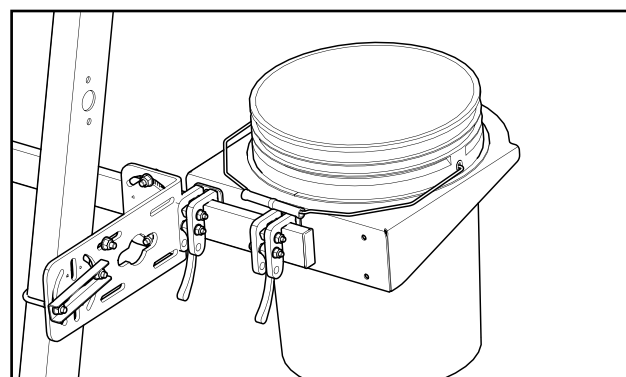

Fig. 4 (bucket holder set to overhang)
2. Holes are provided in the center of the bucket holder to allow a cam lever latch to be removed from one side and bolted in the center to allow the bucket holder to overhang the tool bar on one side, if desired. See fig. 4.